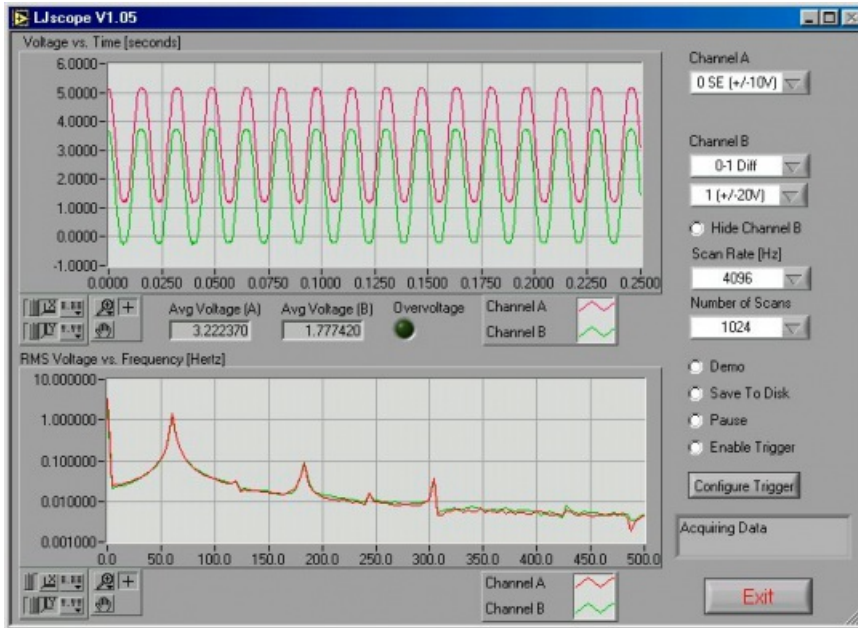

Figure 3-10. LJscope
There are two graphs on the LJscope main window (Figure 3-10), which show voltage versus time and voltage versus frequency. Both graphs have a palette to control various features such as autoscaling and zooming:
- **Number of Scans:** (32 to 2048) Determines the number of scans that will be collected, and thus the total acquisition period. For example, if 1024 scans are collected at 4096 Hz, a quarter second of data will be collected (as shown in Figure 3-10).